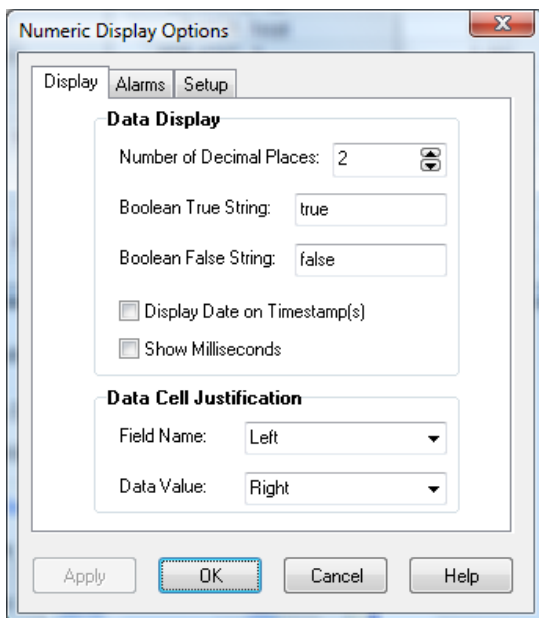

Figure 5.5.2 Options to change the way the variables are displayed.
- Click "1..." and a screen similar to figure 5.5.2 will appear. It is possible to define three different numeric screens in total by using "2..." and "3...".
Several variables should be displayed with more than the standard 2 decimals. To change the number of decimals shown for a variable, right click on the cell and choose "Options..." in the pulldown menu. A screen as shown in figure 5.5.2 will appear. R\_cont should be displayed with 5 decimals, C\_1 and C\_3 should be displayed with 3 decimals.